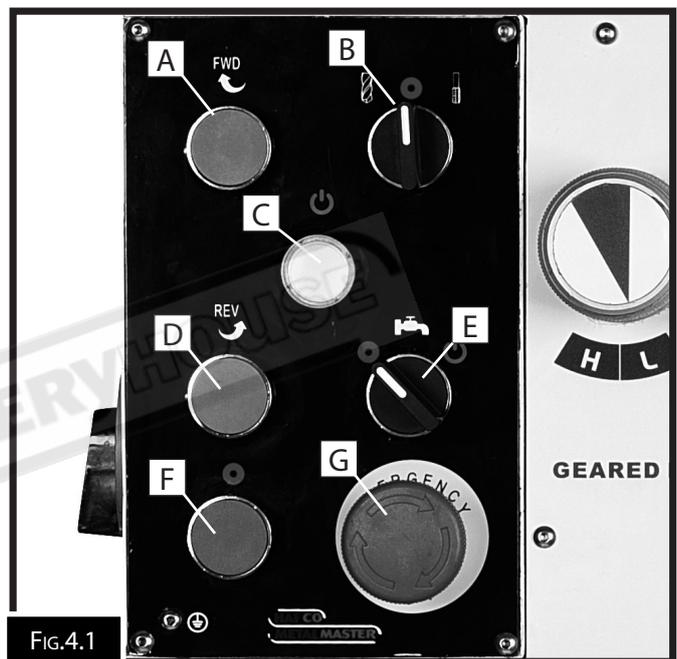

Fig.4.1
A. FORWARD Button: Starts clockwise spindle rotation (as viewed from above). The spindle must be completely stopped before this button is pushed. (Fig.4.1)
G. EMERGENCY STOP Button: Cuts power to the spindle motor and remains depressed until reset. Twist clockwise until it pops out to reset. (Fig.4.1)